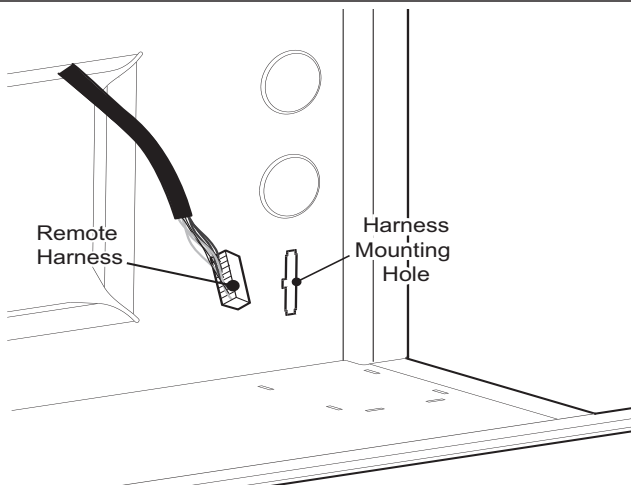

Figure 19: Remote Harness Mounting Hole
- e) Insert remote harness end into the mounting hole, as indicated in *Figure 19*, until it clicks.